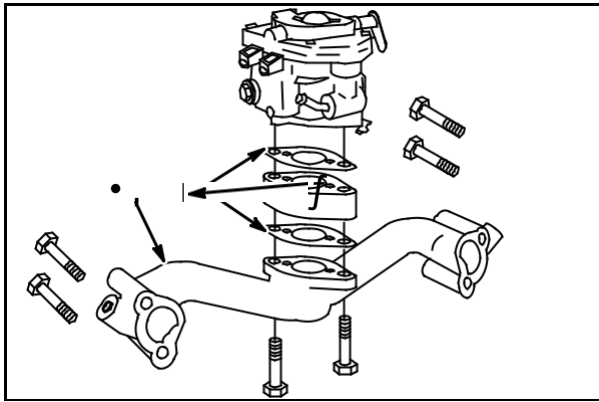

Fig. 16
Remove carburetor, spacer (3) and gaskets (2) from manifold (1), **Fig. 16**.